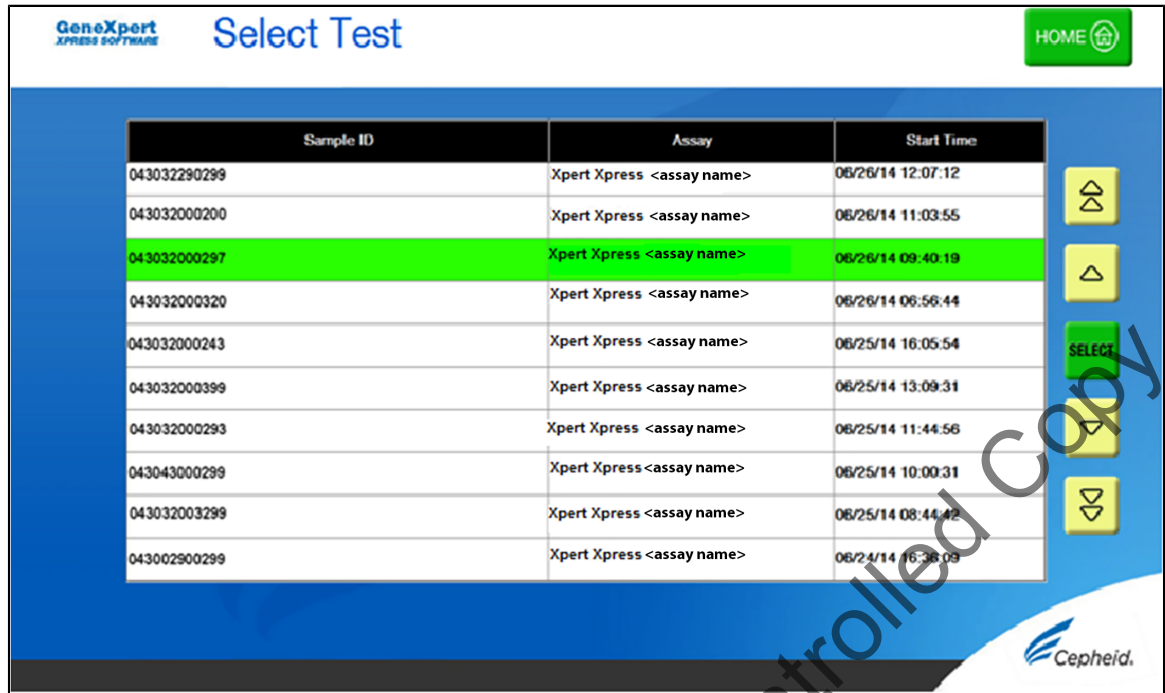

Figure 11. SELECT button
3. Touch the **SELECT** button shown in Figure 11 to view results.